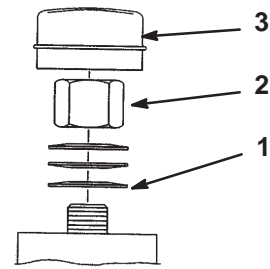

Figure 46
2. Remove dust cap from castor and tighten lock nut (Fig. 46).
3. Tighten until spring washers are flat and then back off a 1/4 turn to properly set the pre-load on the bearings (Fig. 46).
Important Make sure spring washers are installed correctly as shown in figure 46.